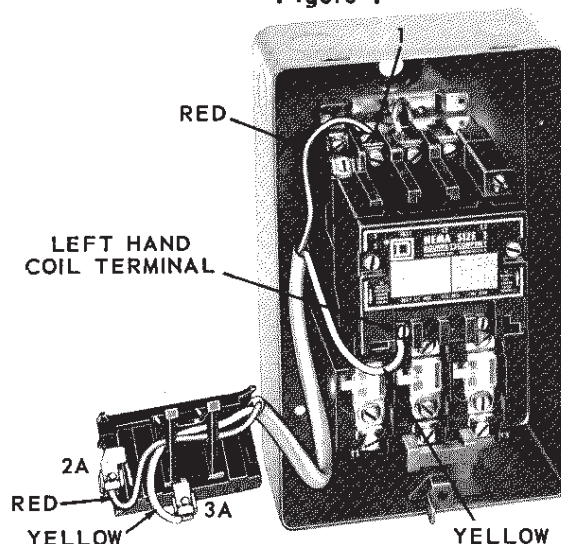

Figure 2
5. Thread yellow and red leads through the pair of horizontally aligned holes in the selector-switch bracket as shown in Fig. 2.